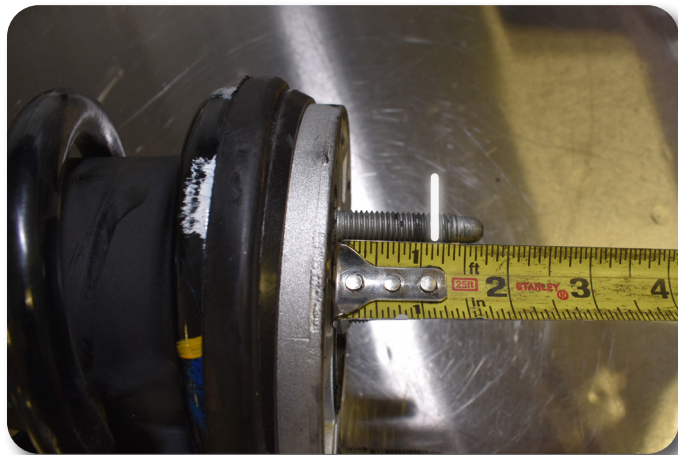

Figure 14
18. The studs in the top hat of the strut assembly must be trimmed for the new strut spacer. Mark the struts to a length of 1-1/8" and cut the studs on the mark **Figure 14**. Clean up the threads as needed in order to thread the new nuts on.